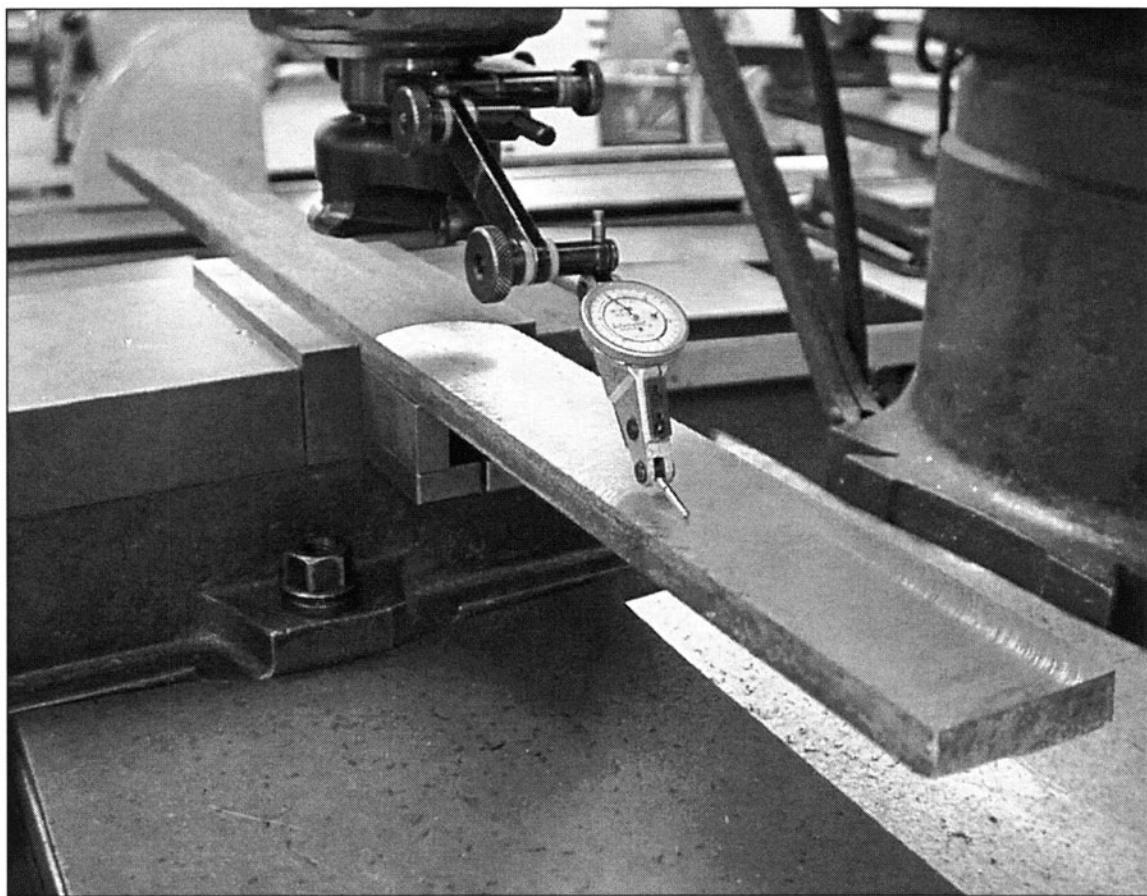

FIGURE 11-2 To cut the warp out of a long bar using a vise, each cut section must be indicated flat before proceeding with the next cut.
6. Indicate previously machined surfaces to machine long bars. (See Fig. 11-2)